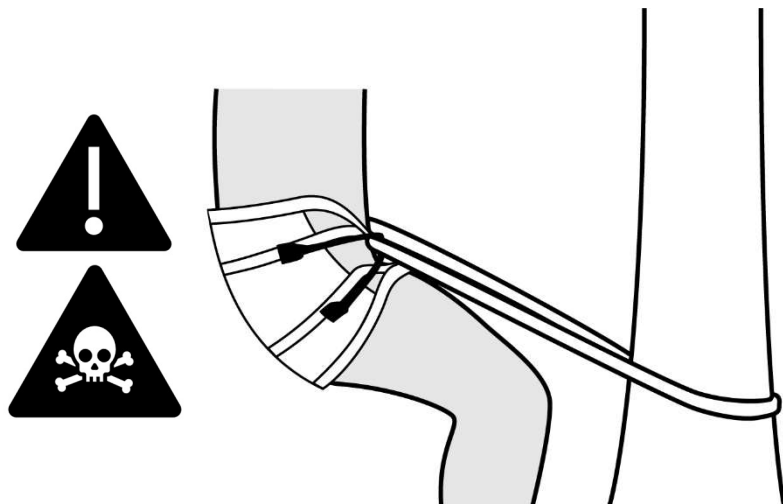

Figure 7
4. **Never** climb above your lineman belt. (Figure 7)